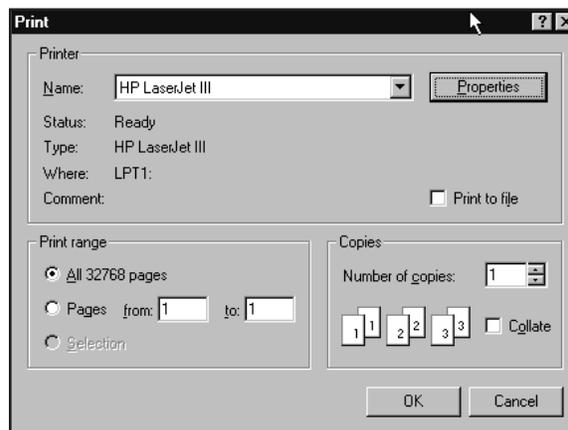

Figure 29 Print Dialog
**Print Setup** displays the Print dialog box (Figure 29).